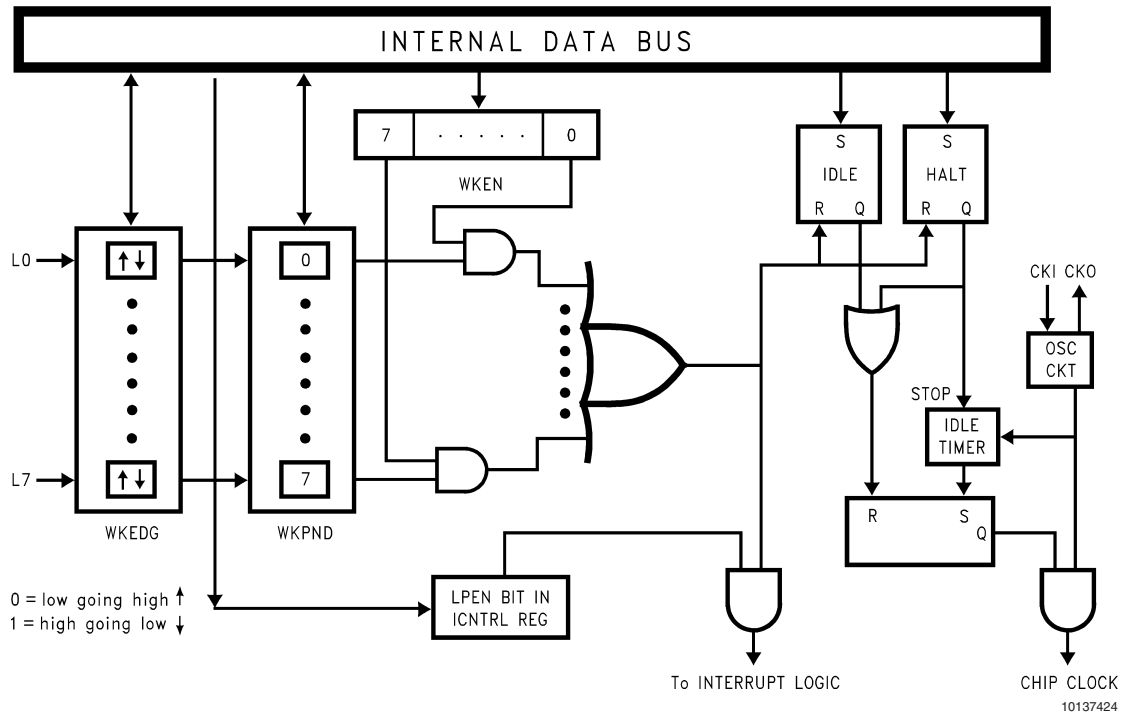

FIGURE 21. Multi-Input Wake-Up Logic
*Figure 21* shows the Multi-Input Wake-up logic.